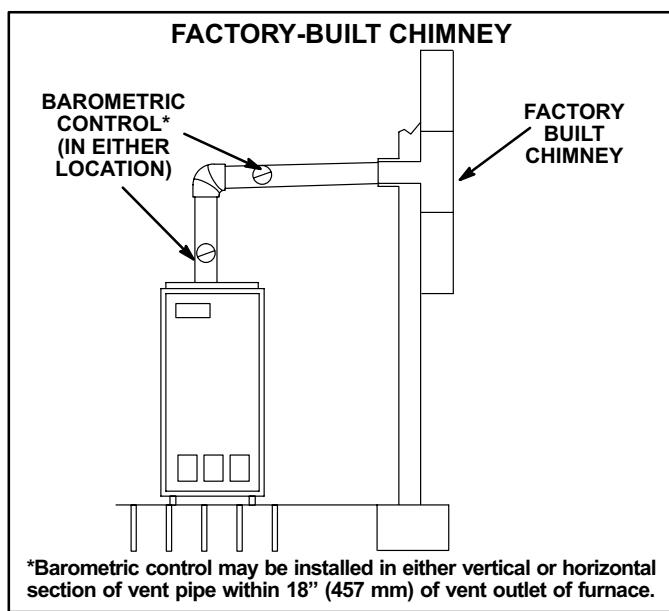

FIGURE 10
- 15- All vent pipe run through unconditioned areas or outside shall be constructed of factory built chimney sections. See figure 10.